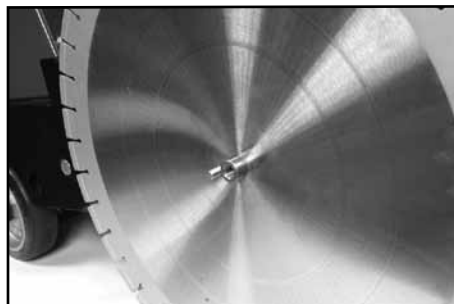

Fig. 9 Install New Blade
4. Install new blade (Figure 9).